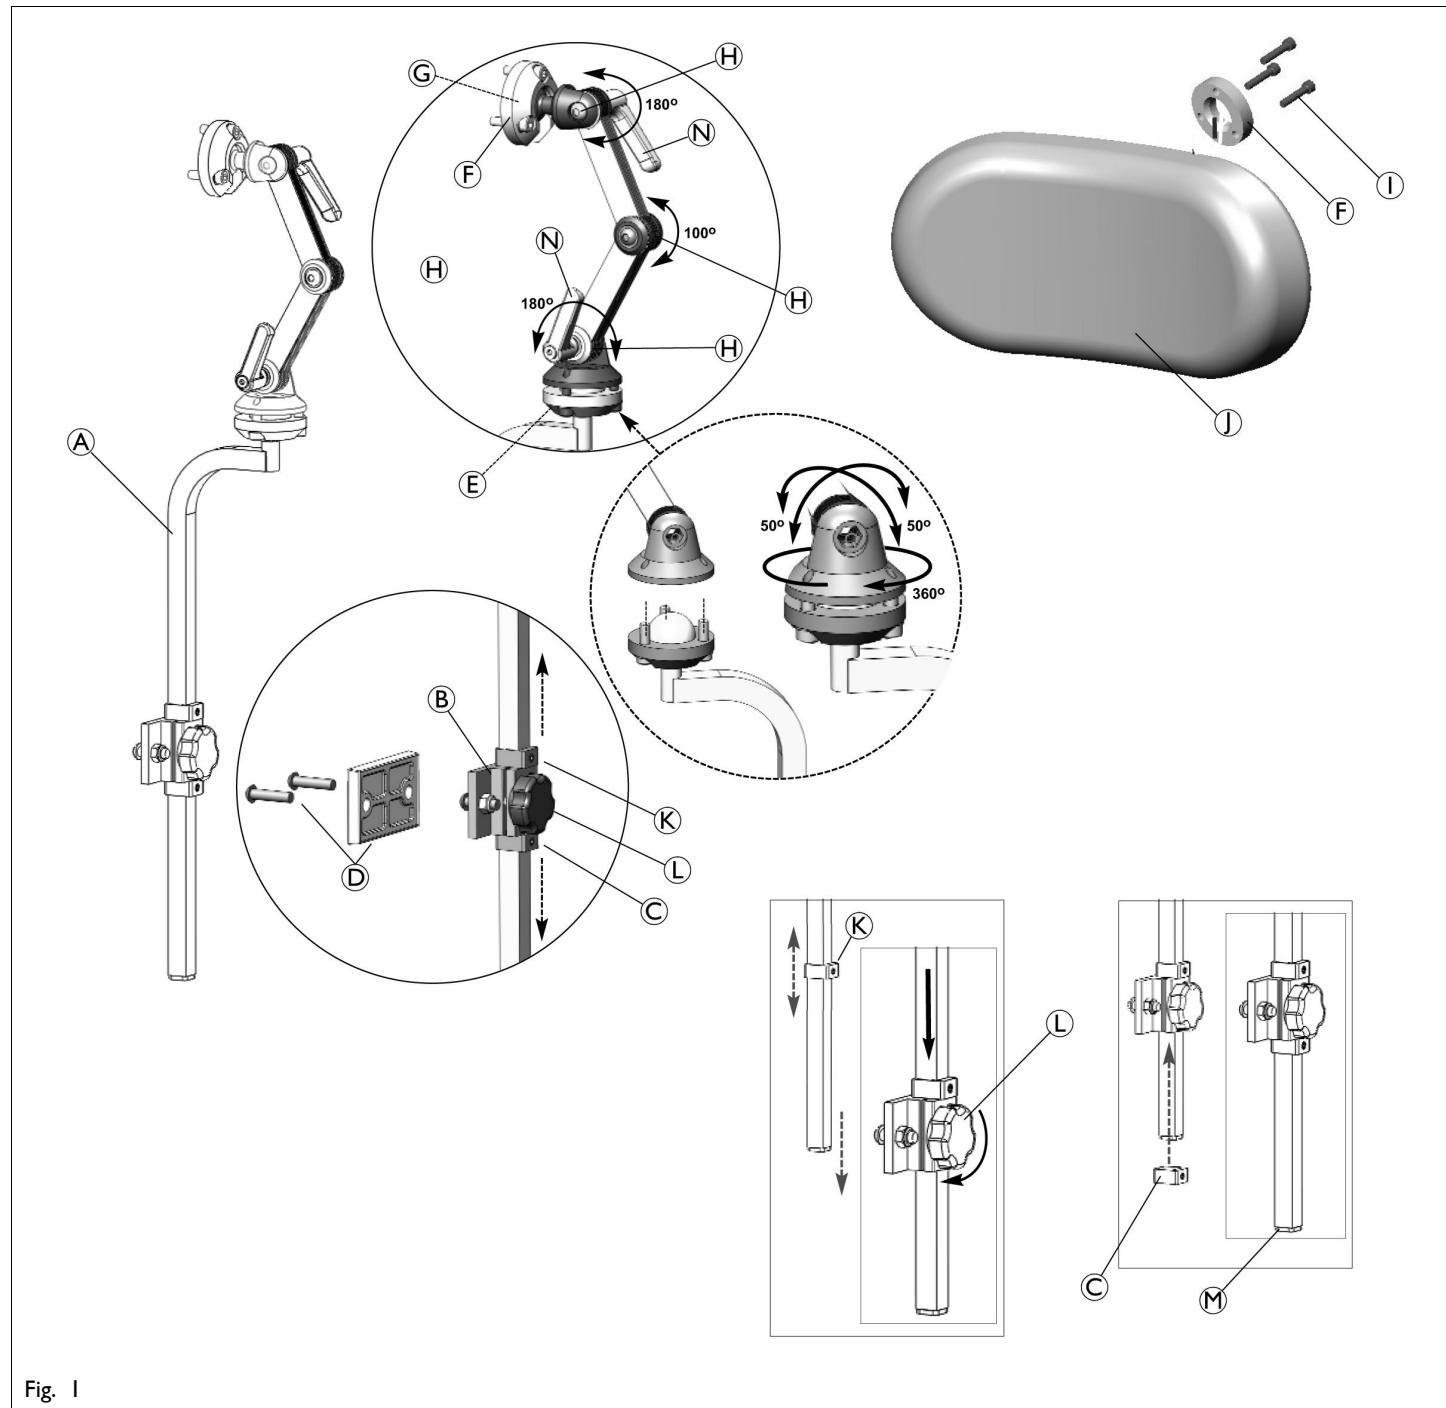

Fig. 1
- Matrix® Elan Hardware (MEHW, post length 356 mm) or Matrix® Elan Mini Hardware (MEMH, post length 254 mm) (see Fig. 1)
### 2.1 Installing the mounting hardware / headrest pads (Fig. 1)